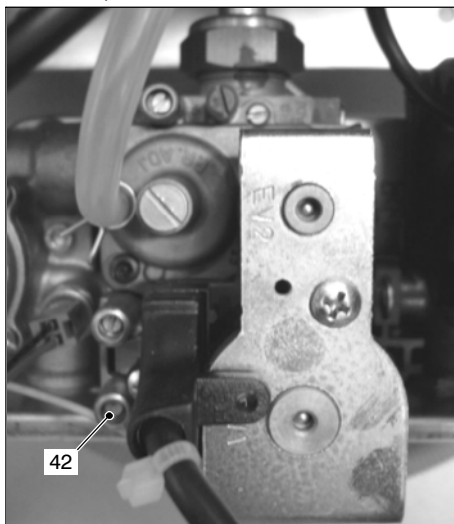

Fig. 7.7
- 2 Loosen the internal screw on the Inlet Pressure Test Point 42 (Fig. 7.7) of the Gas Valve and connect a pressure gauge using a suitable hose.
- 9 Disconnect the pressure gauge and close the Inlet Pressure Test Point 42 (Fig. 7.7).